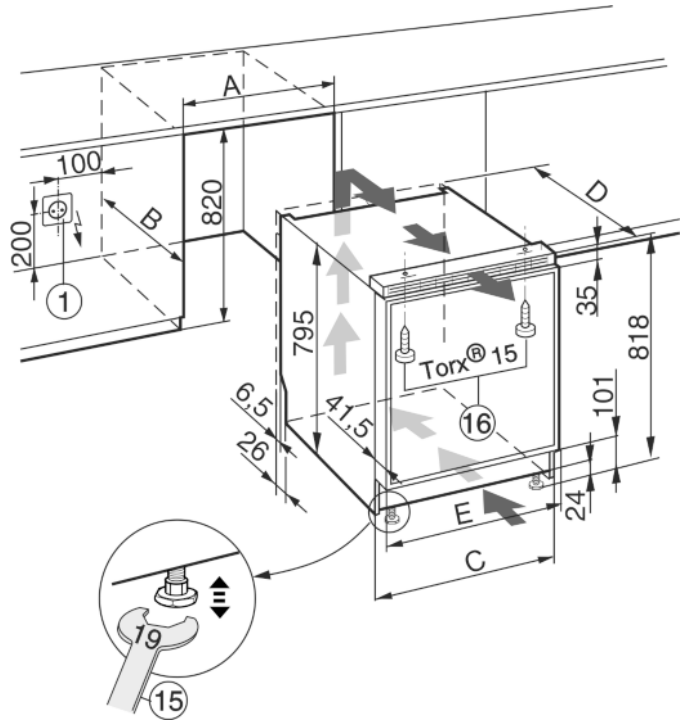

Fig. 12
- The socket outlet Fig. 12 (1) must be adjacent to the appliance and readily accessible.
- ▶ Align the appliance by applying the accompanying open-ended spanner Fig. 12 (15) to the height-adjustable feet.
- ▶ Fasten the top of the appliance to the worktop or to the furniture unit using the accompanying screws Fig. 12 (16).